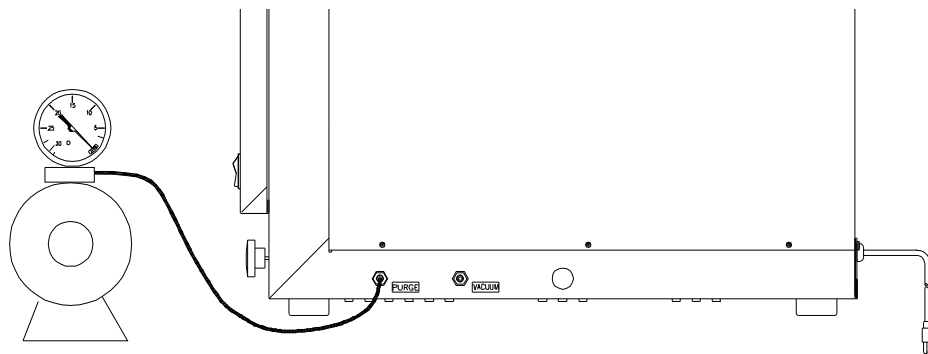

Figure 7-2. Vacuum Pump Hookup
2. Connect a suitable vacuum pump to the PURGE port along with a vacuum gauge (Figure 7-2).